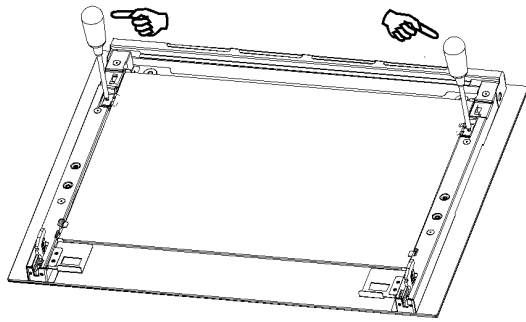

Figure 9
1. To loosen the screws on the bilateral holders, as shown in figure 9